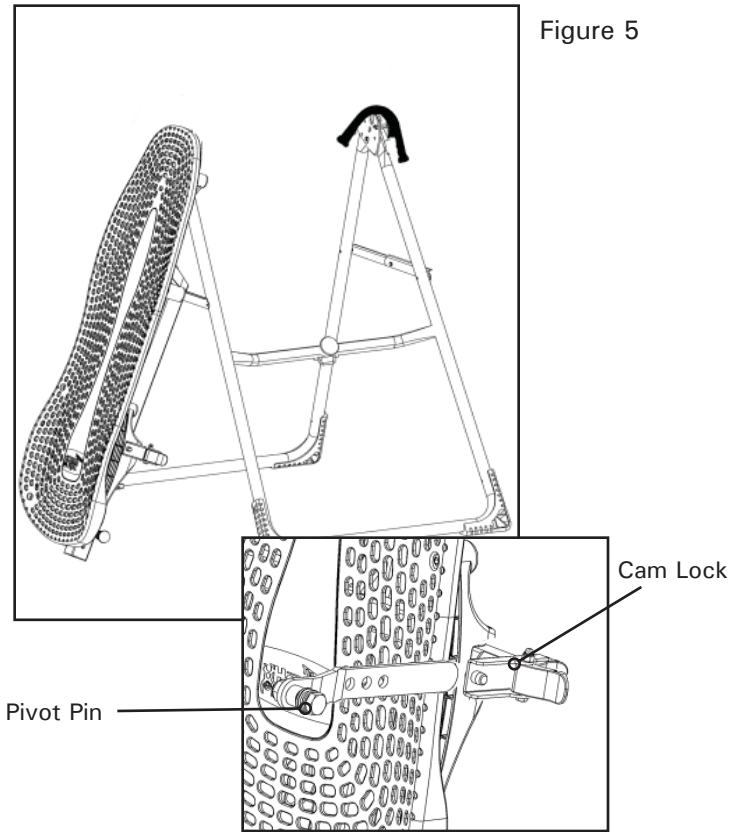

Figure 5A
- Open the Cam Locks on each side of the Table Bed (Figure 5A).